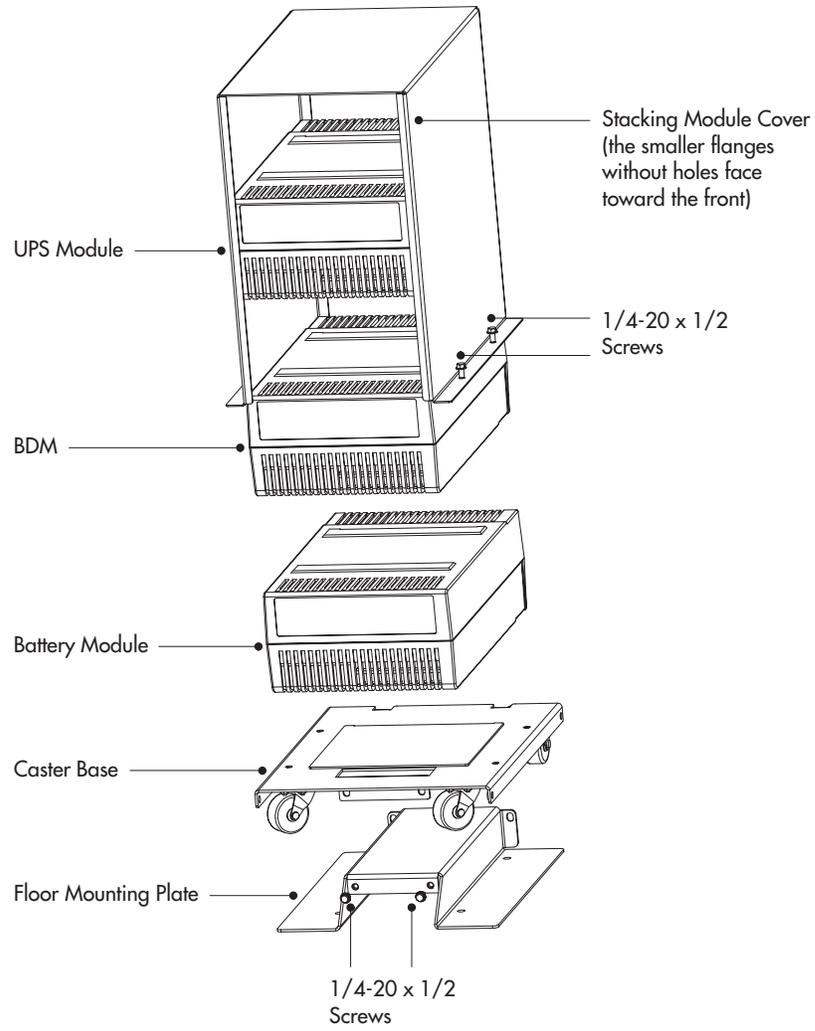

Figure 3. UPS with BDM
- B Secure the caster base to the mounting plate using four of the 1/4-20 x 1/2 screws provided. See Figure 3 for part locations.
- 3** Stack the modules onto the caster base according to the stacking order shown in Figure 3.